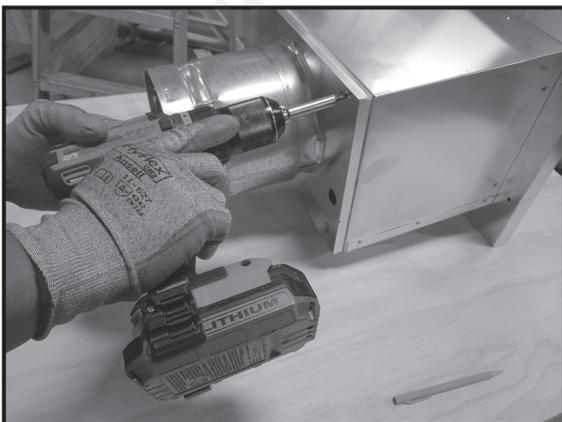

Figure 3.6
1. Remove the eight screws holding the back cover to the cap. See Figure 3.6.